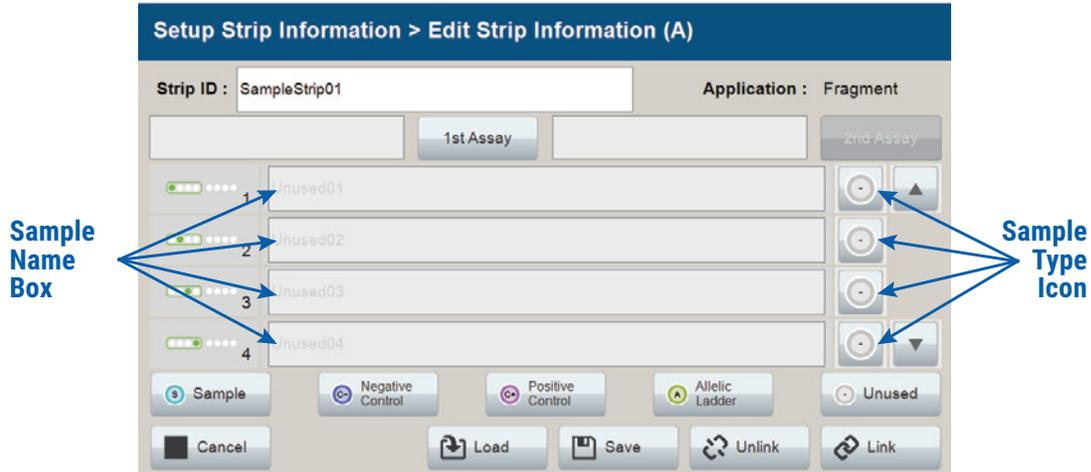
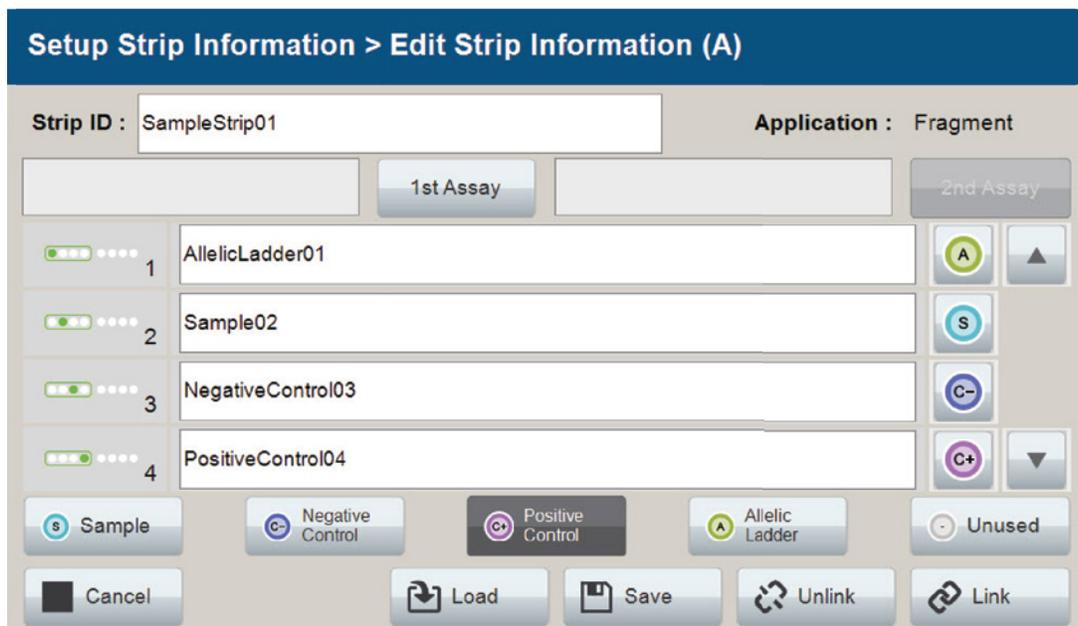
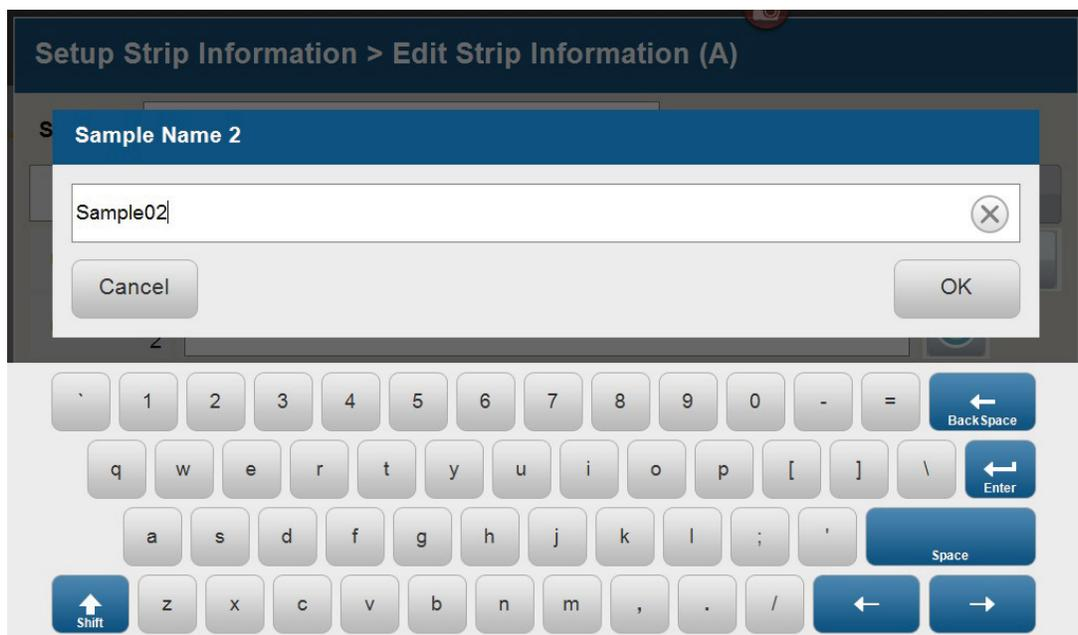
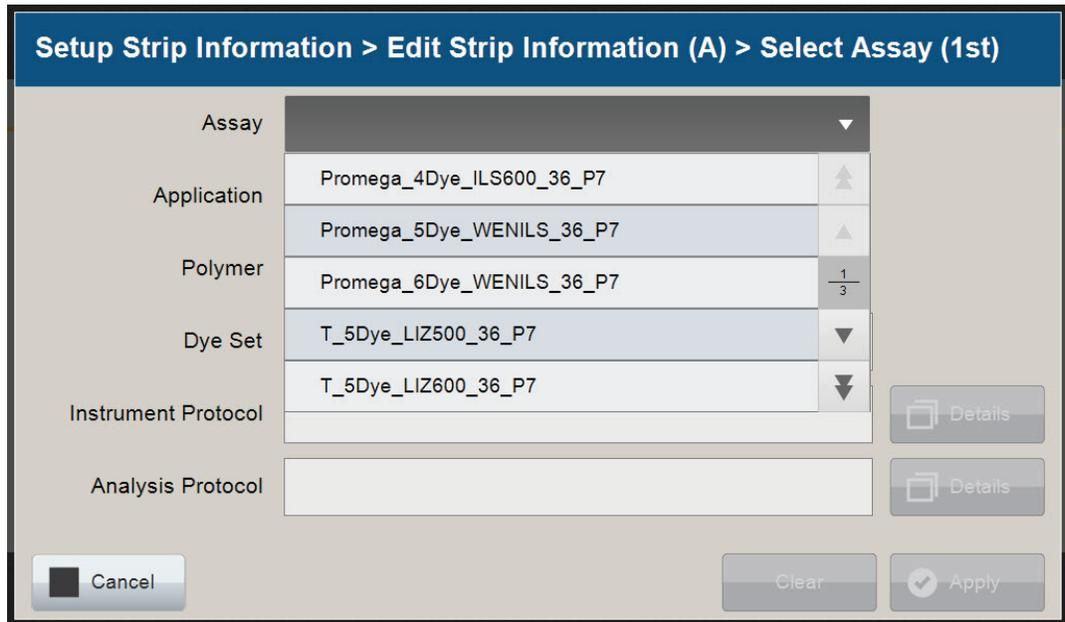

Figure 13. Sample Type and Sample Name on 'Edit Strip Information' screen.
Figure 14. Sample Name Entry on 'Edit Strip Information' screen.
Figure 15. 'Set Sample Name' window.
Figure 16. 'Select Assay' window.
4. Select a sample type on the 'Edit Strip Information' screen (Figure 13). Sample types must be selected for each well position before the **Sample Name** box becomes active for entry of sample name. Sample types are as follows.
5. To assign a sample type to a well, select the appropriate sample type along the bottom of the 'Edit Strip Information' screen (Figure 13), and then select the **Sample Type** icon to the right of the sample name field for the desired well. This icon will then display the sample type selected for that well (Figure 14).
6. Enter a sample name for each well position by selecting the **Sample Name** box adjacent to the well number on the 'Edit Strip Information' screen (Figure 14). This opens the 'Set Sample Name' window and a keypad will become active on the touch screen (Figure 15). Alternatively, the sample name can be entered using a traditional keyboard if one is connected to the Spectrum Compact CE System. Enter the appropriate sample name, and then select **OK** to exit and return to the 'Edit Strip Information' screen.
- The Spectrum Compact Control Software includes pre-loaded run assays for use with chemistries available from Promega. Refer to the *Spectrum Compact CE System Operating Manual* #TMD058 for information on creating or modifying assays. To assign a run assay to an injection set, select the **1st Assay** button on the right side of the '1st Assay' field (Figure 14). This opens the 'Select Assay' window (Figure 16). Select 'Promega_5Dye_WENILS_36_P7' from the drop-down list (Figure 16) and then select **Apply**.